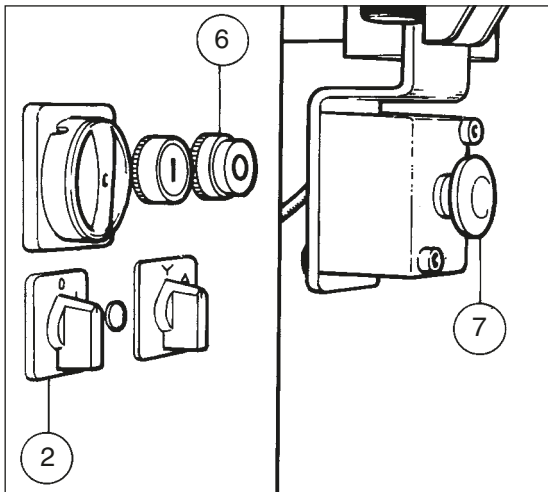
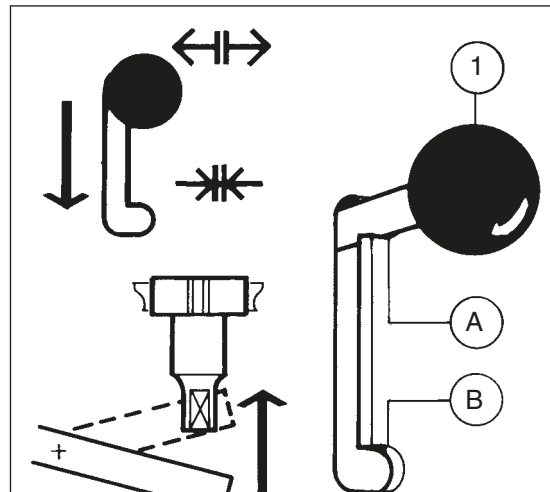
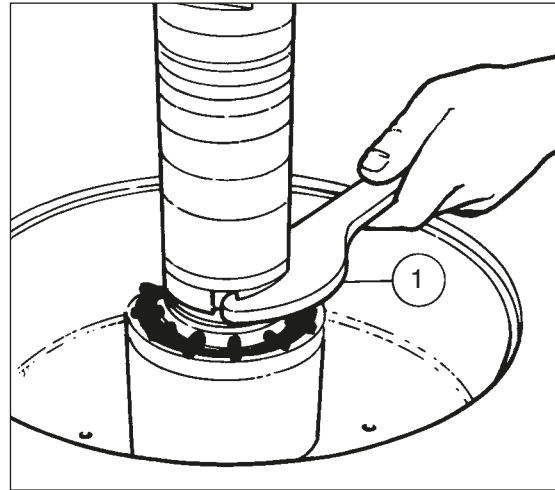
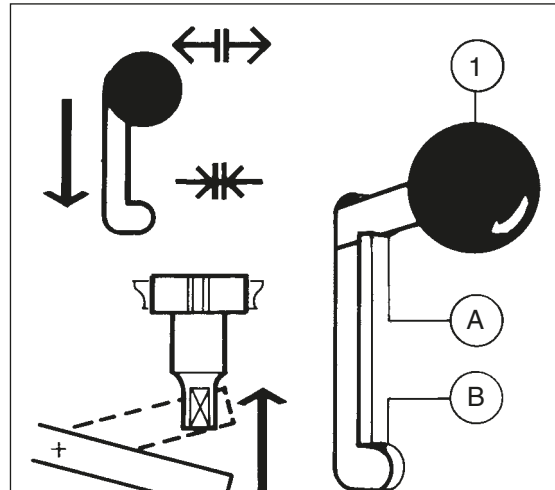

Fig. 15
Fig. 16
Fig.26
Fig.28
It is also impossible to start the machine up if the spindle lock (fig.16+17) is working.
- Put the brake release switch (fig.15, 2) on "1" in order to release the spindle arbor from the brake motor.
- Then the handle (fig.16, 1) has to be pushed downwards into the stop groove on the frame (B).
- To make the machine ready for use, it is important to check if the handle is in upward position (fig.16, A) and if the brake release switch is on "0" (fig.15, 2).
The brake motor on the machine is automatically put into action when the emergency stop or the stop button (fig.16, 6+7) is pushed.
The installation of the spindle arbor must be carried out in a clean way and with the utmost care. It is absolutely necessary to clean the spindle before mounting, and to oil it slightly before installation. Please proceed as follows : put switch 2 (fig.15) on "1", push the lever (fig.28,1) on "B". Then the spindle must be manually turned in order to be clicked into its lock.
It is imperative to wait until the spindle has come to a complete stop before pushing down the locking lever (fig.28). The spindle is free when the handle is put on "A", locked when put on "B". By turning the nut (fig.26,1) - right thread !! - anticlockwise with the hookspanner, the spindle can be loosened. Always check that the nut is well tightened. Before starting up the machine, the brake release switch (fig.15,2) must be put on "0" and the lever (fig.16,1) on A". Also check whether the spindle runs freely.
2. On top of these 2 switches, there is a safety switch on the fork (fig.28) which surveys that the maximum speed of 3000 RPM is chosen when tenoning.
In case no protection (spindle and ring guard) is installed, i.e. when tenoning, it is absolutely necessary to put the belt in the groove that corresponds to the speed of 3000 RPM, and the handle (fig.28,2) on "3000 RPM", in order to be able to start the machine.